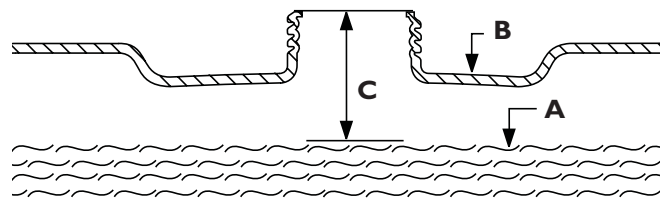

Figure 2 — Fuel Expansion
3. Slowly add unleaded gasoline (A) to fuel tank (B). Be careful not to overfill. Allow at least 1.5" (38 mm) of tank space (C) for fuel expansion, as shown in Figure 2.